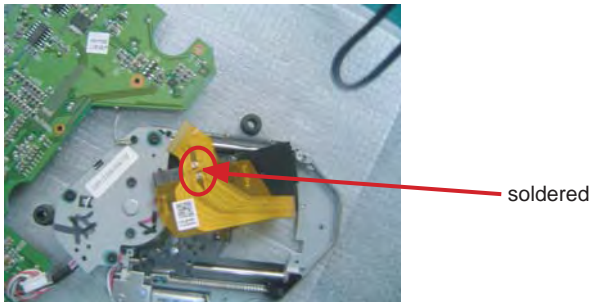

Fig.2
2. Soldered short pattern for laser diode as shown in Fig.2